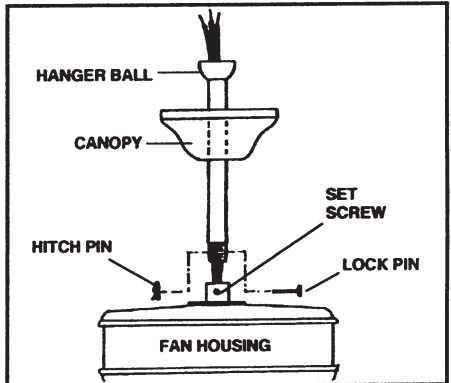

FIG. 9
**Step 5.** Slip canopy onto downrod. (Fig. 9). Carefully reinstall hanger ball onto rod being sure that crosspin is in correct position, set screw is tight and wires are not twisted.